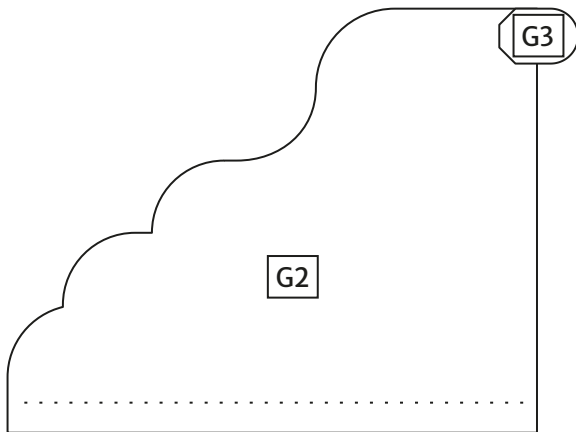

Fig. 5: Visor side part with foot rest
**Step 29** Fold the glue tab on the right side of the visor [G2, sheet 7] backwards and glue the grey surface of the foot rest 1 [G3, sheet 7] to the marked spot on the black back of the side part of the visor (Fig. 5). The foot rest should be flush with one edge of the visor side part and on the other side the gold printed semicircular end protrudes beyond the edge. Then glue the right visor part with its tab onto the right hand edge of the top cover. At the rear it should be flush with the end of the top cover. At the front it just reaches the bend of the cover's hinge.